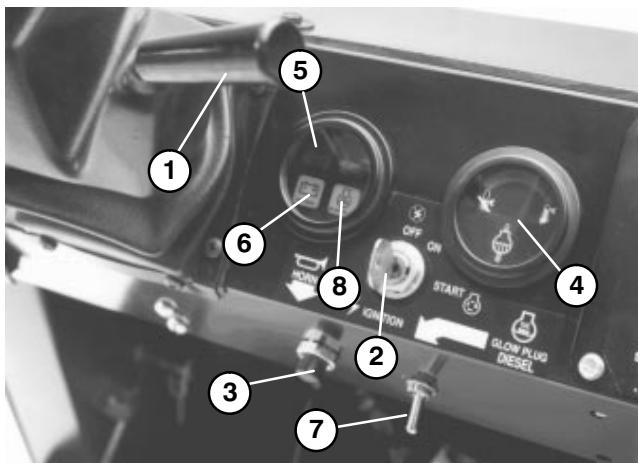

Figure 18
Tilt Steering Lever (Fig. 18) – Lever on right side of console allows steering wheel to be adjusted for operator comfort.
Coolant Temperature Gauge (Fig. 18) – Registers coolant temperature in engine. Operates only when ignition switch is in On position.
Horn Button (Fig. 18) — Pressing button activates horn.
Engine Low Oil Pressure Light (Fig. 18) — The light glows and the engine will shut down if the oil pressure drops below safe levels. Turn the key off and check the oil level. If the oil level was low, but adding oil does not cause the light to go out within 4 seconds, do not operate the vehicle and contact your local Toro distributor for assistance.
Glow Plug Switch and Indicator (Fig. 18) — Use to preheat engine cylinders prior to cold engine starting procedures — cylinders are preheated automatically during warm engine start operation. For cold starting, push switch lever upward and hold while watching indicator. Indicator will glow orange when the glow plugs are activated. Length of time necessary to preheat cylinders should be determined by atmospheric temperature; refer to Starting /Stopping Engine.
Ignition Switch (Fig. 18) — The ignition switch, used to start and stop the engine, has three positions: OFF, ON / Preheat and START. Rotate key clockwise — START position — to engage starter motor. Release key when
Charge Indicator (Fig. 18) — Illuminates when battery is being discharged. If light illuminates during operation, stop vehicle, turn Off engine and check for possible causes, such as alternator belt.
4. When temperature is below 15°C (60°F), push glow plug switch upward to ON position (Fig. 18) and hold for suggested interval.